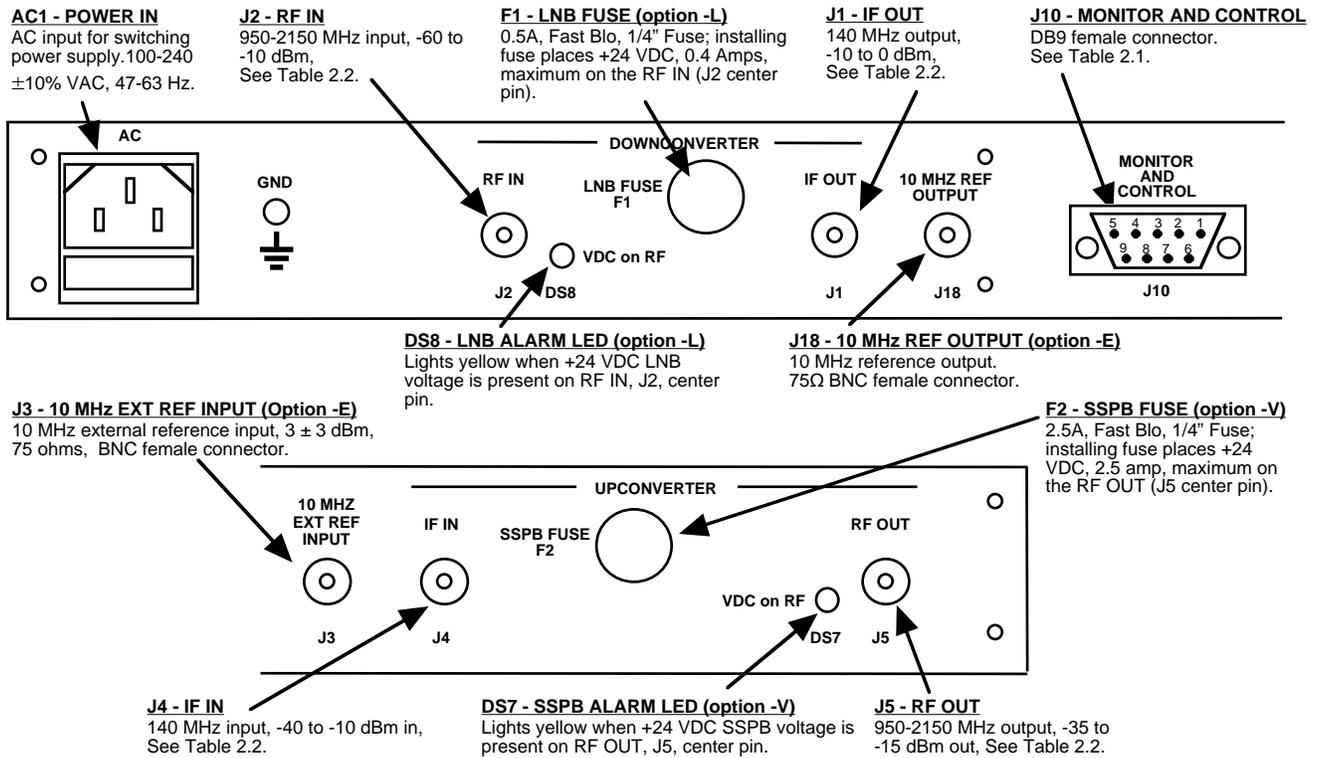

Figure 2.1 Model 2017-04A Rear Panel I/O's
- 1.) Connect a -40 dBm to -10 dBm signal to IF In, J4 (Figure 2.1).
- 1.) Connect a -60 dBm to -10 dBm signal to RF In, J2 (Figure 2.1).